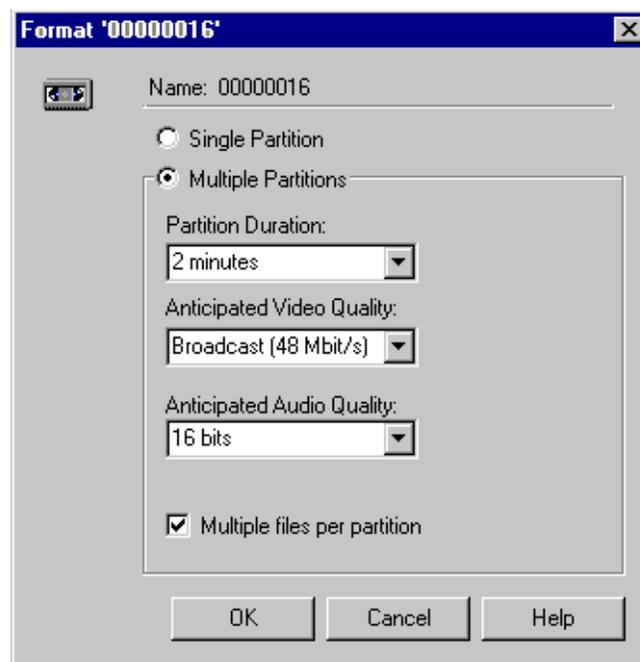
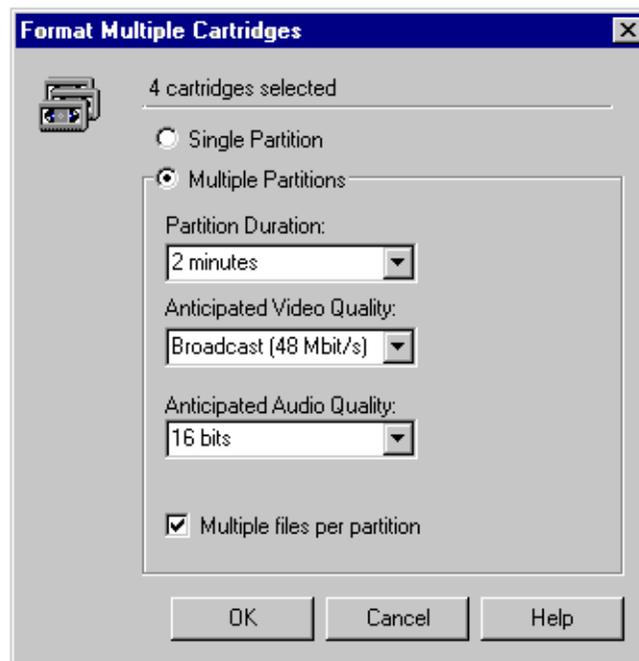

Figure 64. Format Cartridge dialog box
Figure 65. Format Cartridge dialog box
2. Choose **Format** from the **File** menu or from the shortcut menu with a right-click. The Format dialog box appears (see Figure 64). The Name field shows the name or names of the cartridges to be formatted. If more than one cartridge is selected, the number of cartridges is shown (see Figure 65).